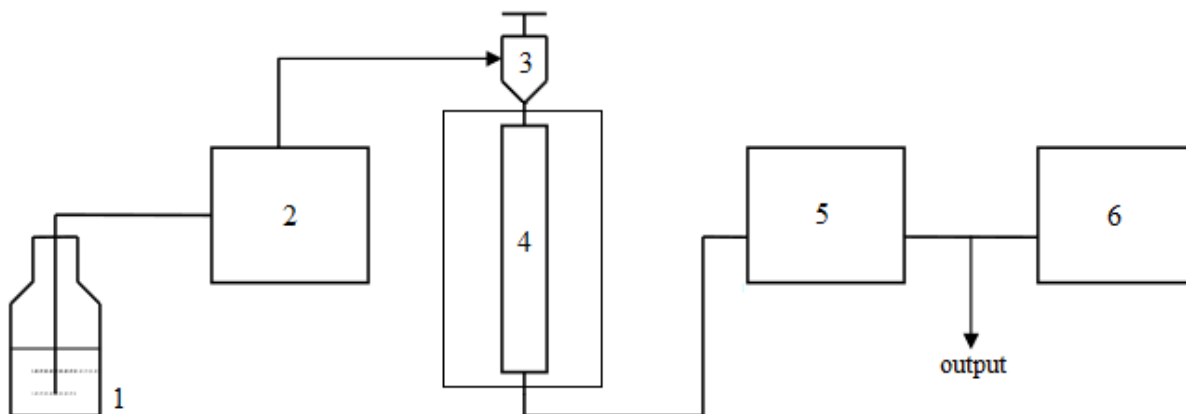

Fig. 93: Liquid Chromatograph Diagram
A liquid chromatograph (LC) consists of the following elements (Fig. 93):